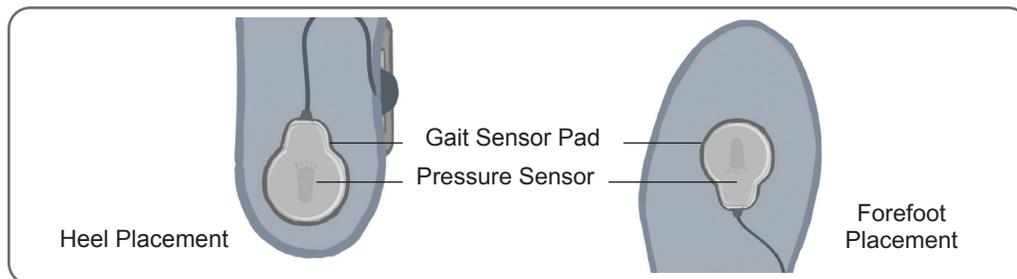

Figure 8-5: Positioning the Foot Sensor in the Shoe
4. For heel position placement point the wire of the Foot Sensor toward the toe of the shoe. For forefoot position placement point the wire of the Foot Sensor toward the heel of the shoe. Attach the pressure sensor to the Foot Sensor pad. See Figure 8-5.